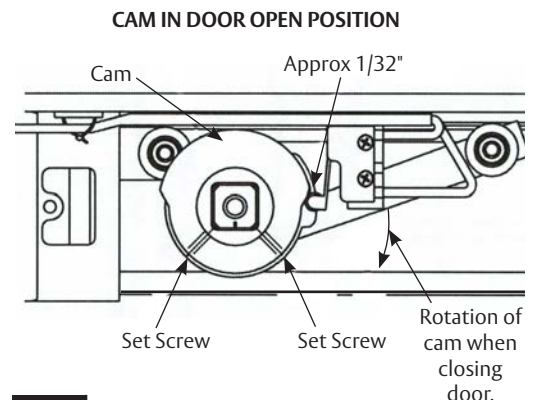

Figure 9
3. Open door to desired holding position and hold open with door stop. Rotate cam until switch roller is on lower section of cam and approximately 1/32" from bottom of incline. (Figure 9) Cam should be positioned so when door closes, roller on switch will ride up incline of cam operating the switch. Tighten on set screw in cam with hex key and pull door closed.